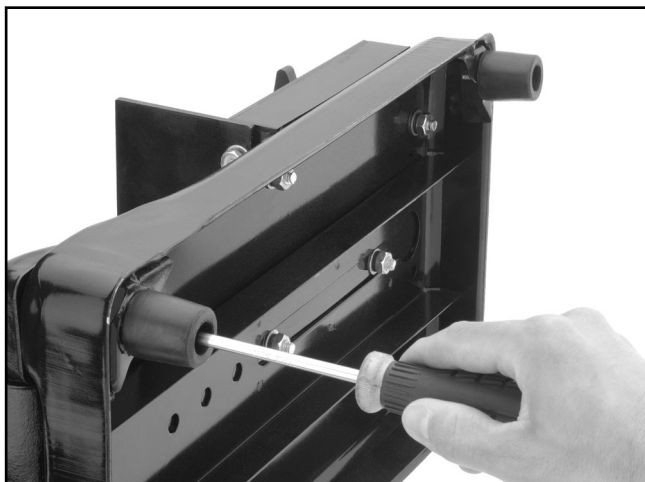

Figure 3. Installing the rubber feet.
2. Turn the bandsaw stand on its side to access the threaded holes as shown in **Figure 3**.